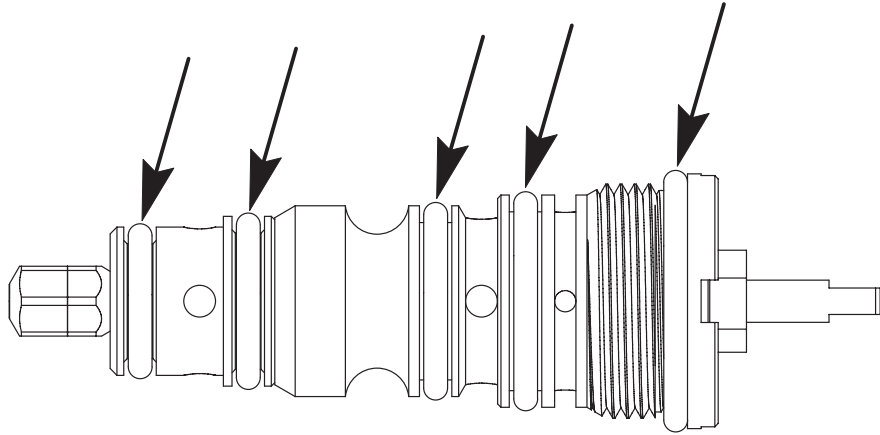

Figure 17 Location of the O-rings on the cartridge assembly
2. See Figure 17. Taking care to not create excessive globs of O-ring lubricant, apply a very thin film of lubricant (distributed evenly) to all O-rings in the new cartridge assembly.